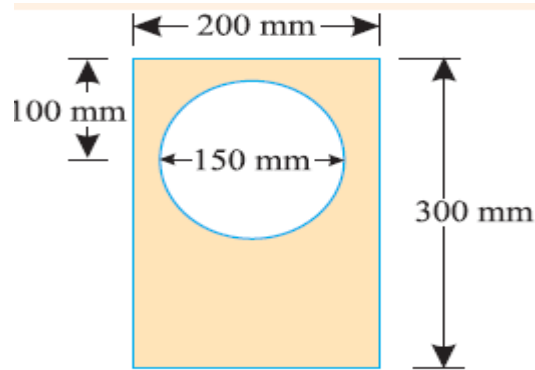

Fig.25
8. Find the moment of inertia of a hollow section shown in Fig.25 about an axis passing through its center of gravity or parallel X-X axis. [10 M]